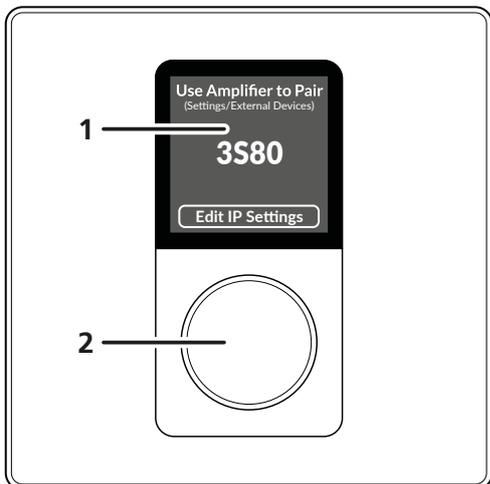

Fig. 7
After connecting the remote control to the power supply, the start screen will appear on the display (1) for a few seconds. An individual pairing name for the wall-mounted remote control will then be displayed (e. g. "3S80" in fig. 7). This name is used to identify the device on the user interface of the amplifier.